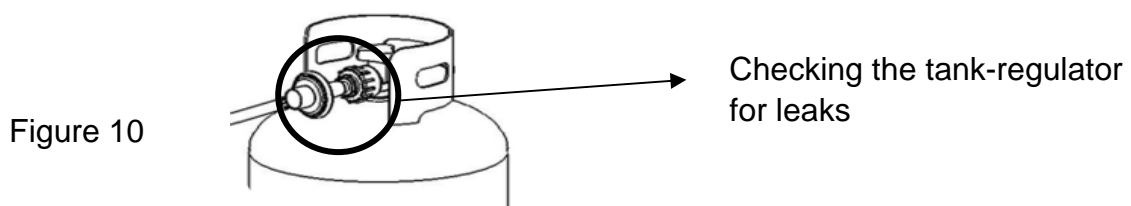

Figure 10
9. Open the tank valve. Apply a solution of soapy water to the tank-regulator connection and to the valve-hose connection to check for leaks as shown in Figure 10. If soap bubbles continue to form, the connection has a leak. If a leak is found, close the tank valve and tighten all connections.